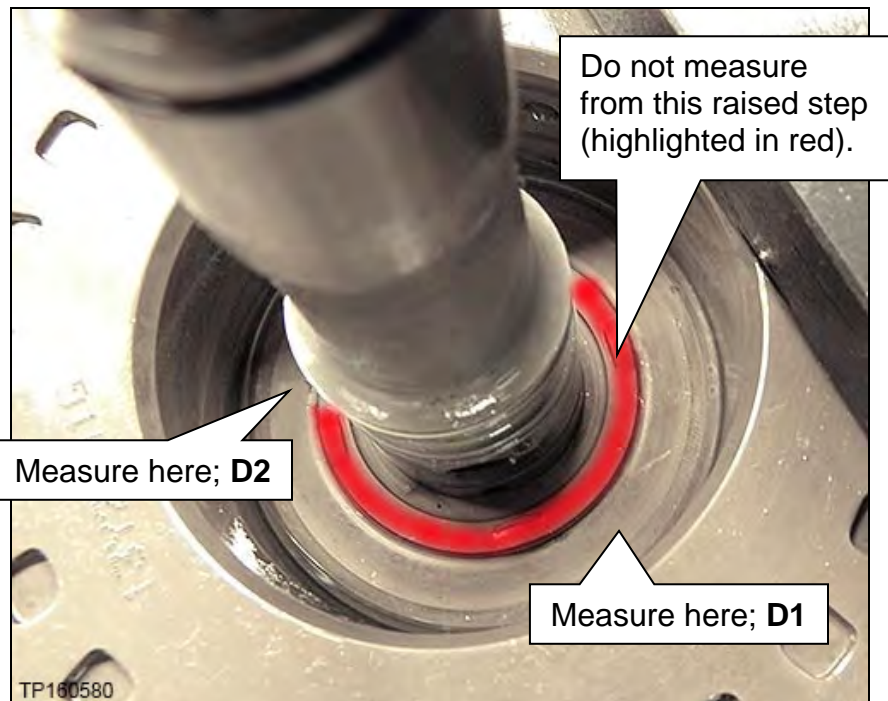

Figure 6G
**NOTE:** Do not measure from the clutch assembly bore shown in red (Figure 6G).